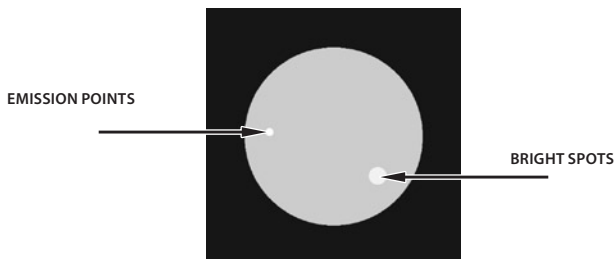

Figure 3-5. Bright Spots and Emission Points
(1) Bright Spots. A bright spot is a small, nonuniform, bright area that may flicker or appear constant (Figure 3-5). Not all bright spots make the MUNVM rejectable. Cup your hand over the objective lens to block out all light. If the bright spot remains, return the MUNVM to the maintainer. Bright spots usually go away when the light is blocked out. Make sure any bright spot is not simply a bright area in the scene you are viewing. Bright spots are acceptable if they do not interfere with the operator's ability to view the image or to perform the mission.
(2) Emission Points. A steady or fluctuating pinpoint of bright light in image area that does not go away when all light is blocked from the objective lens of the monocular (Figure 3-5). The position of an emission point within the image area does not move.